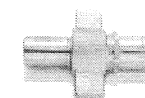

Figure 1
1. Connect the tractor to the trailer using a male and female quick coupler. (Figure 1)